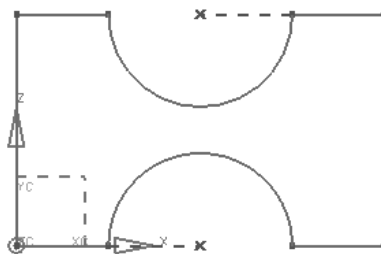

Figure 2-61 Final sketch for Tutorial 3
18. Press the ESC key twice to exit the **Profile** tool. The final sketch of the model is shown in Figure 2-61.